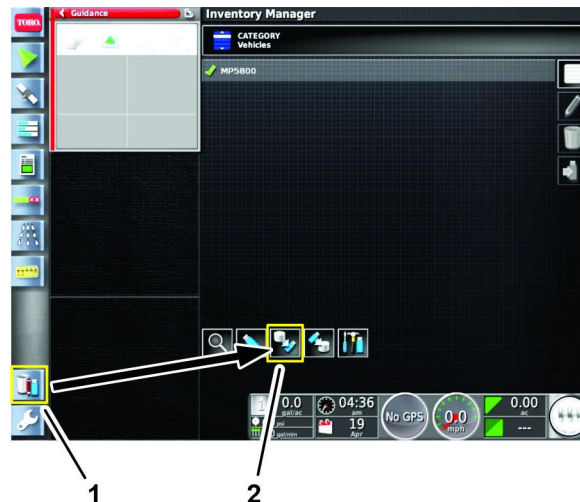

Figure 5
1. Press the INVENTORY MANAGER icon (Figure 5).
2. At the bottom of the screen, press the EXPORT DATA icon (Figure 5).